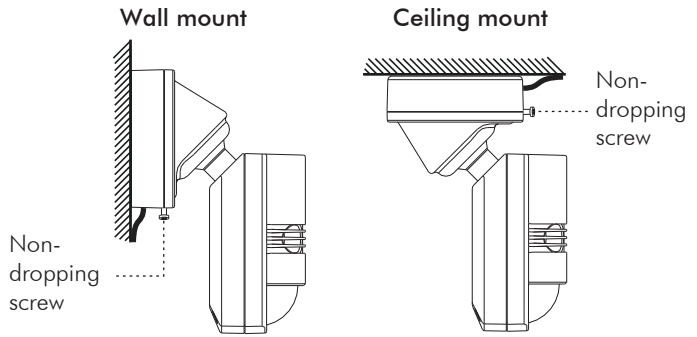

FIG.10
3.3.4 Screw the front cover of power box on the bottom case, then fix the detector firmly (See FIG.10).